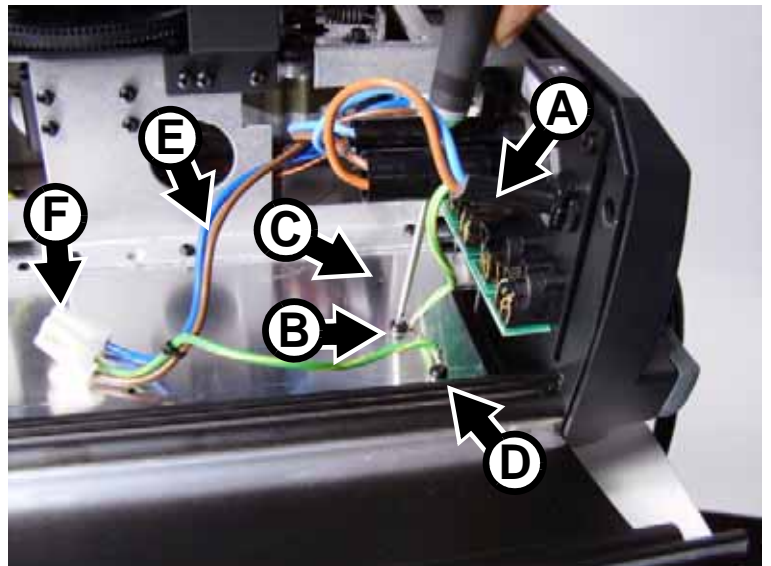

Figure 18
19. See Figure 18. You must now relocate the mains input cable ground (earth) lead to make space for the new ballast. First, strip some of the outer insulation from the mains cable at **A**.
20. See Figure 18. Unscrew the Torx 20 screw **B** (P/N 08070701) that fastens the lead to the metal base plate. Throw this screw away. Move the mains input cable ground lead to the existing hole **C** in the base plate and fasten it to the base plate with one of the new Torx 20 screws, P/N 08070701, supplied in the Upgrade Kit (see “V” in Table 1). To make sure the lead does not foul the new ballast, fasten the screw with the lead trailing out towards the fixture's XLR connectors.
Warning! For safety reasons, the two ground (earth) leads – one from the fixture's mains input cable and one from the mains filter on the ballast assembly – shown at **B** and **D** in Figure 18 **MUST** be fastened to the base plate separately with two separate screws when the new ballast assembly is installed. **DO NOT** take a short-cut and use one single screw to fasten these two ground leads to the base plate together, or you will create a safety risk, void the product warranty and make the product illegal.
40. See Figure 36. Stand the fixture upright again and fasten the mains filter ground lead to the base plate, re-using the original screw in the hole arrowed in Figure 36 and shown at **D** in Figure 18 on page 10.